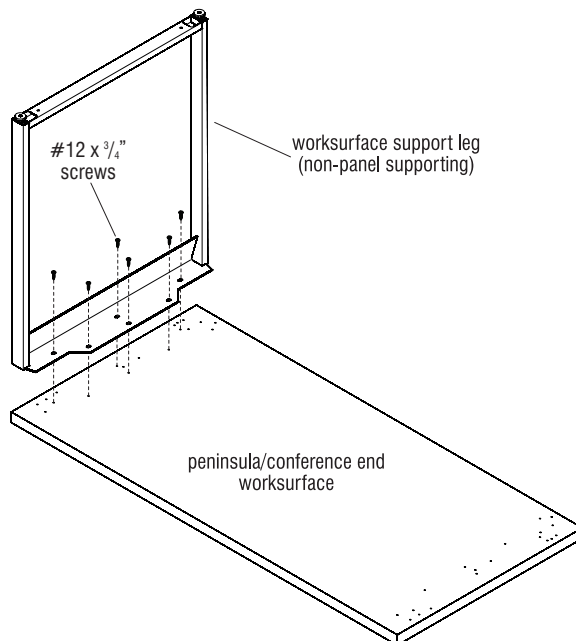

Figure 17 - Worksurface Support Leg to Peninsula/Conference End Worksurfaces
3. Position a worksurface support leg onto the underside of the worksurface, centered and flush with the end and over pre-drilled mounting holes. Secure to the underside of the worksurface using six #12 x 3/4" screws. Take care to not over-tighten the screws (Figure 17).